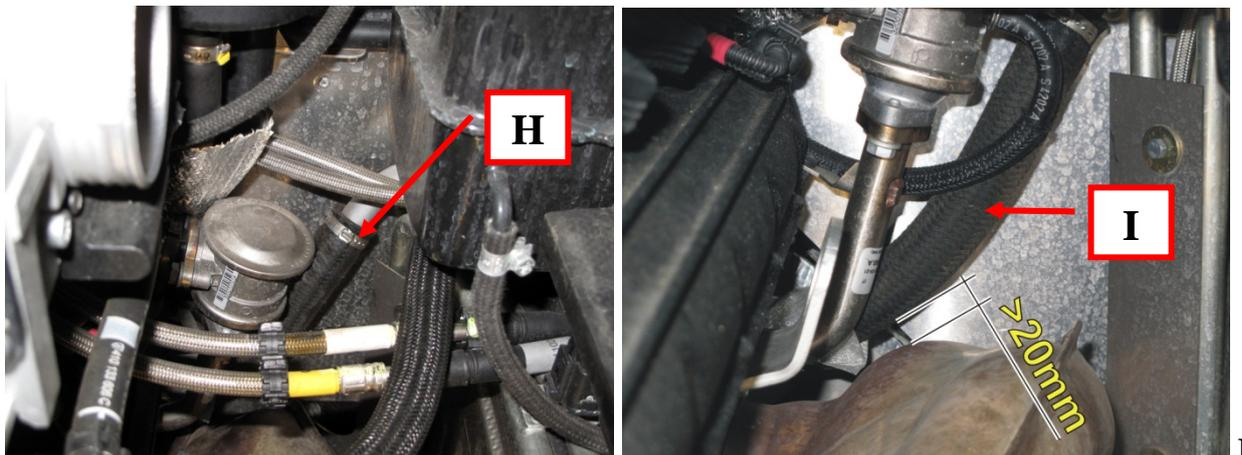

Fig. 7
- Using a pair of scissors, cut the clamp (H-Fig. 7) from the rubber hose leading to the coolant tank.
- *Disconnect the hose (I-Fig. 7). Be careful of the coolant remaining in the circuit.*